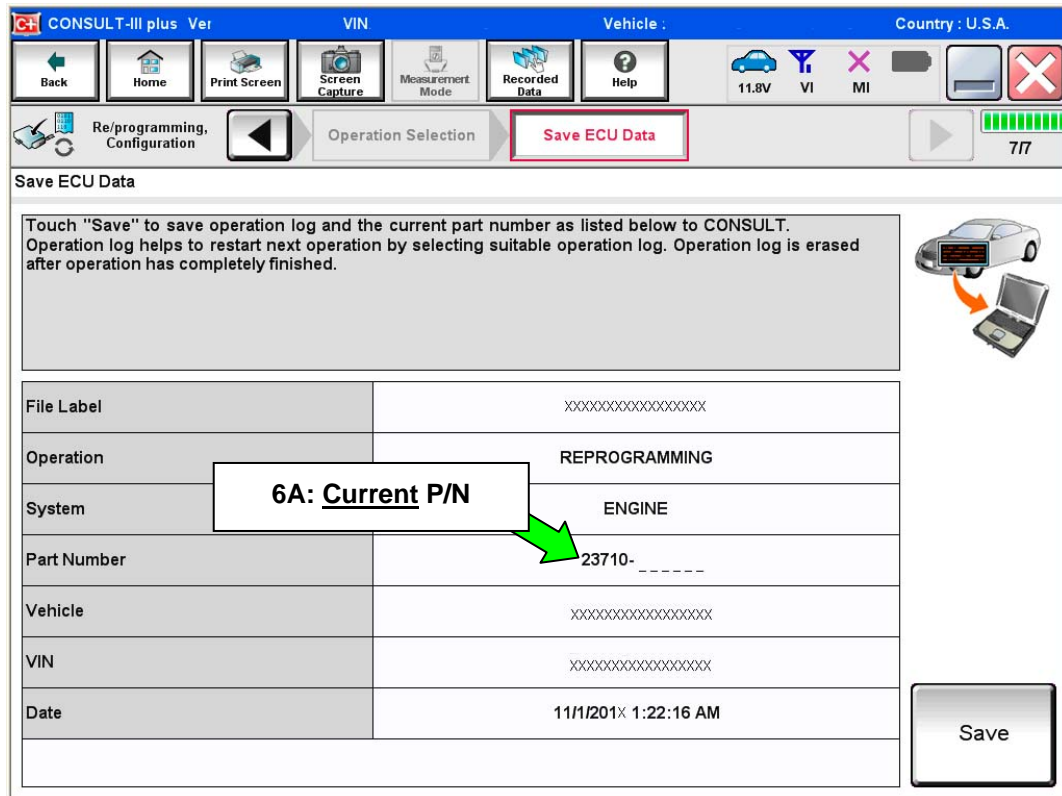

Figure 2
5. Follow the C-III plus on-screen instructions and navigate to the screen shown in Figure 2 on the next page.
6. When you get to the screen shown in Figure 2, confirm this bulletin applies as follows: